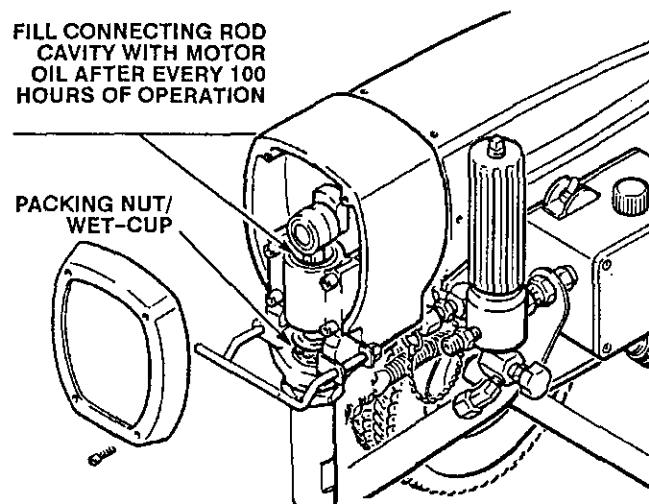

Fig 10-2
1. Check the packing nut/wet-cup daily. Relieve the pressure. Keep the packing nut/wet-cup 1/3 full with TSL at all times to help prevent fluid buildup on the piston rod and premature wear of packings. Tighten the packing nut just enough to stop leakage. Over-tightening may cause binding and excessive packing wear. Use a screwdriver and light hammer to adjust the nut. See Fig 10-2.
3. Fill the connecting rod cavity with motor oil every 100 hours of operation. Relieve pressure. Remove the front cover. See Fig 10-2.